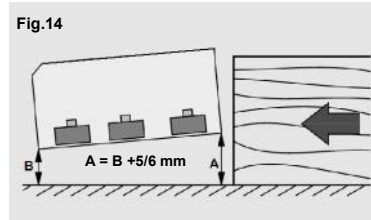

Fig.14
For applications in which the power feeder is used in “horizontal position” (Fig.14), make sure the distance (B) between the outlet roll and the plane of the machine is 5-6 mm less than the distance (A), which is the distance between the inlet roll and the plane of the machine tool.